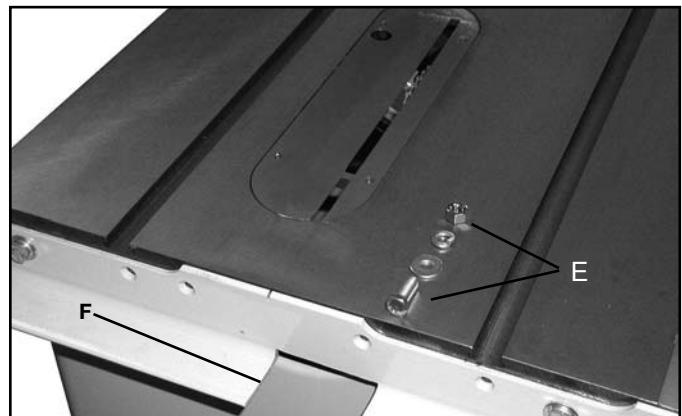

FIG. 9
DELTA CONTRACTOR'S SAWS AND HYBRID SAWS: Fasten rail to the saw using the two 3/8-24 x 1-1/4" hex head screws, lock washers, flat washers and hex nuts (E) supplied, Fig. 9. The lock washer, flat washer and hex nut will be on the inside edge of the saw table.
4. After fastening the rear rail to the saw table, tilt the saw blade to make certain there is no interference between the guard splitter and the rear rail. If there is, it will be necessary to enlarge the cut-out (F), Fig. 9, in the rear rail.